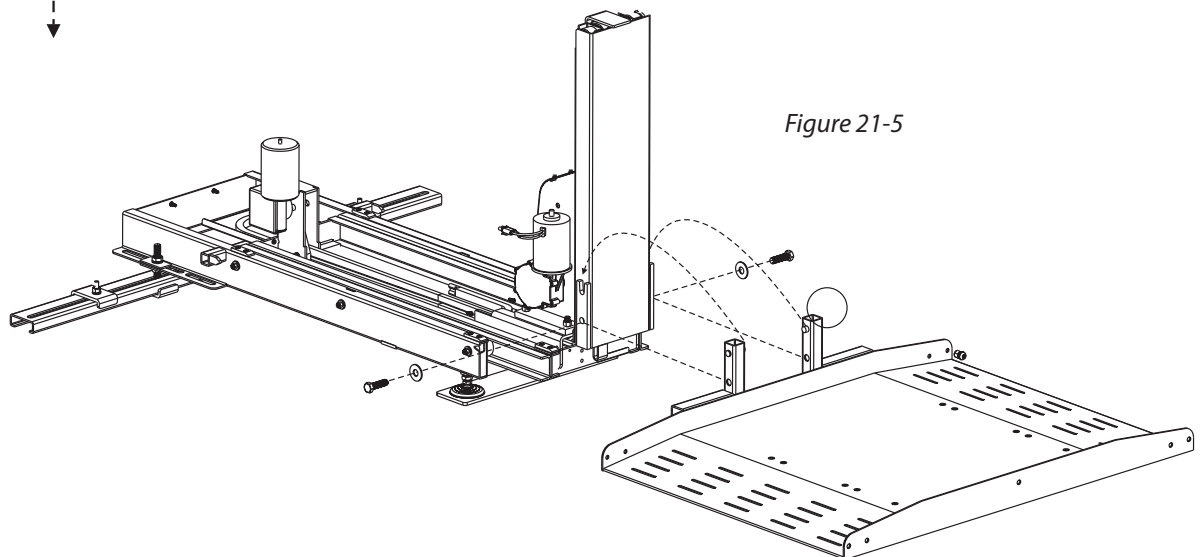

Figure 21-5
18. Thread 1/2-13 x 1-3/4" L Hex head Bolts and 1/2" washers into threaded holes as shown. [Figure 21-5] Test full motion of lift into and out of the vehicle. Be sure lift is level and no obstructions interfere with platform travel.